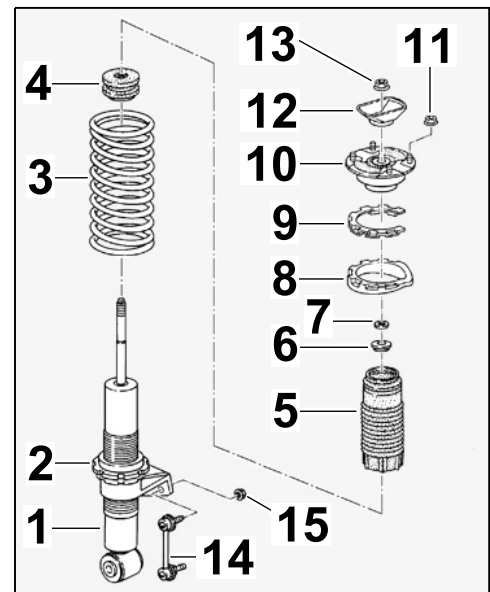

Figure 10
3.4 Disassemble faulty spring strut (⇒ Workshop Manual 4271 Disassembling rear spring strut) and assemble new spring strut as shown in Figure 10 (⇒ *Figure 10*).